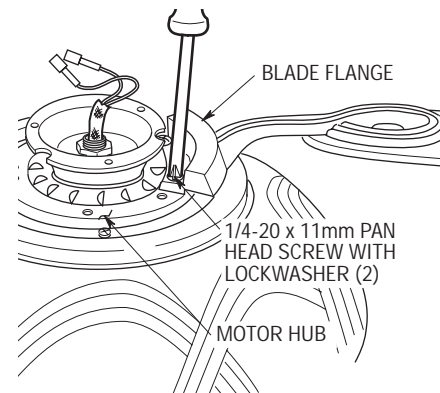

Figure 7
- 10. Position the blade flange on the motor hub so that the screws in the blade flange align with the two threaded holes in the motor hub (Figure 7). Tighten the two screws securely. Repeat this procedure for the remaining four blade assemblies.